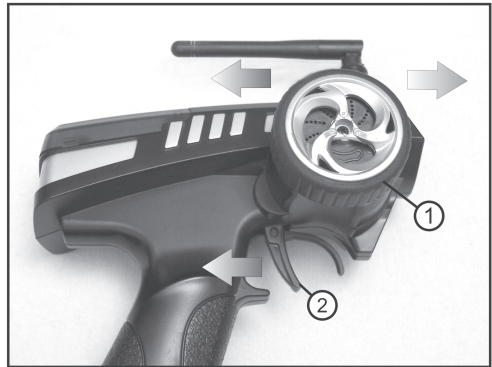

Figure 6
Operate the steering wheel for steering (figure 6, item 1). Steering to the left must cause the rudder (viewed from behind in driving direction) to swivel to the left as well.
Check the function „driving forwards“. The throttle lever of the transmitter (figure 6, item 2) permits smooth adjustment of the model's driving speed. The farther you push the lever to the handle, the faster must the ship's propeller turn and the faster will the ship move forward.